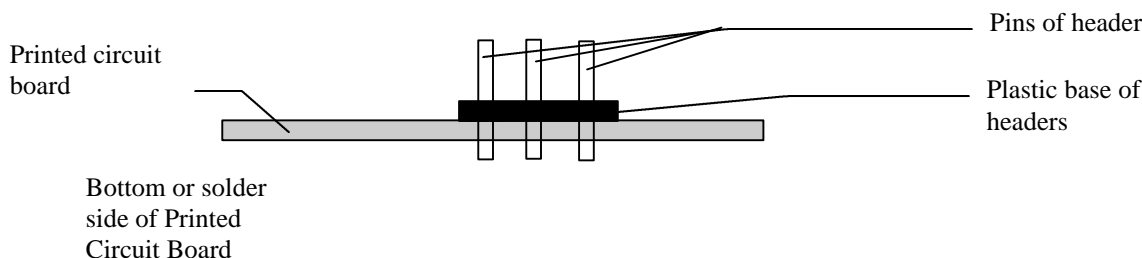

Figure 2 Proper placement of headers.
4. Cut a six pin, right angle male header and insert into J2. With the male header firmly held against the MB2325 PC board, solder one pin at the left end. Keeping the header firmly against the board solder the diagonally opposite pin. Check to make sure the header pins appear like the ones in Figure 2.